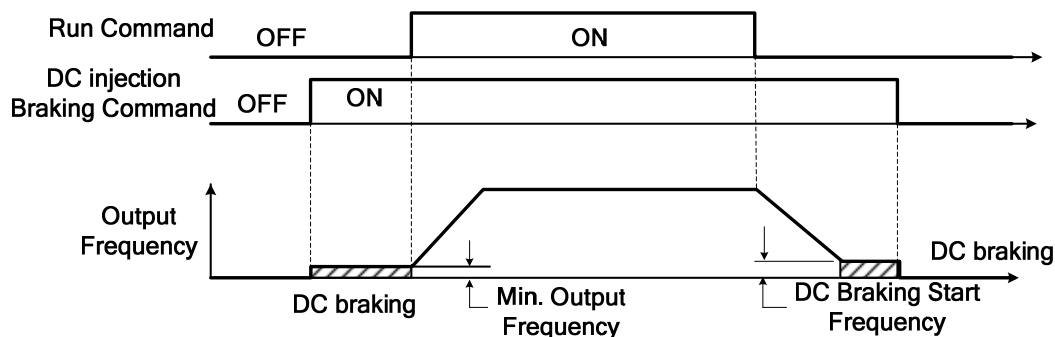

Fig. 9.2.3.14 Time chart for DC injection braking command
- When the DC injection braking signal is ON, the motor will stop. If a run source or jog command is input, the DC injection braking will be cleared and the motor will begin to run. (See Fig. 9.2.3.14 below)